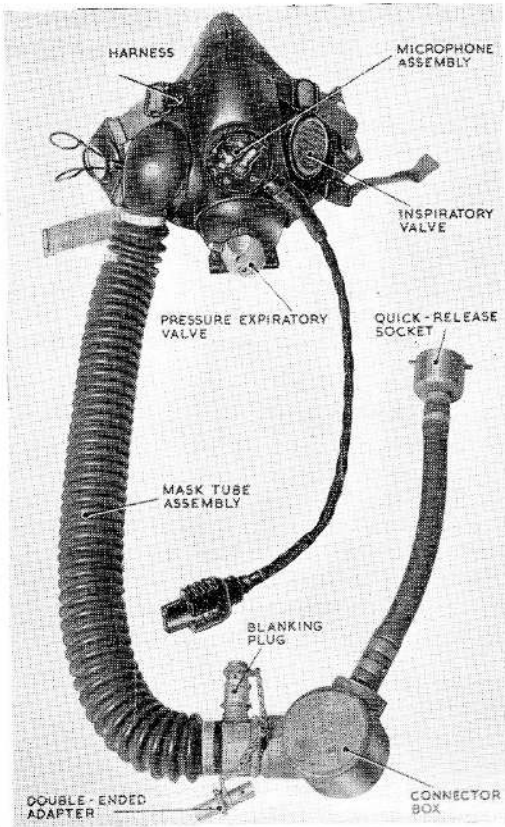

Fig. 10. Oxygen mask, Type M, Mk. 2
27. This mask (*fig. 10 and 11*) is similar to the Type M, but embodies the following additional features:—